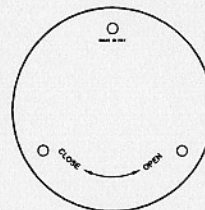
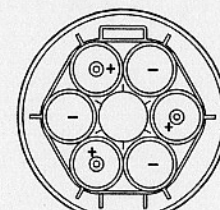

FIG. 1
FIG. 2
- Turn lantern upside down and turn base cover counter clockwise and lift off. (Fig. 1)
- Insert with new 6 pcs. "D" size batteries (not included). (Fig. 2) Close battery cover and snap shut.
- When the power of batteries lower than 4V, replace new batteries is must. Otherwise, the Remote Control may not function. (Fig. 1 and Fig. 2)